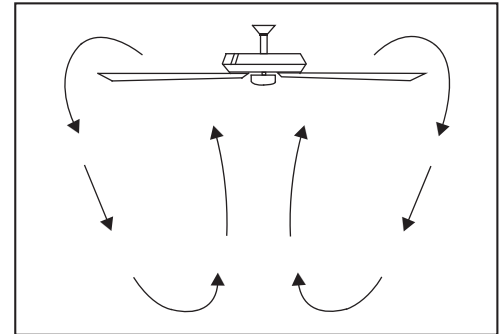

Figure 19
**Cool weather** - (Clockwise direction) An upward airflow moves warm air off the ceiling area. (Fig. 19) This allows you to set your heating unit on a lower setting without affecting your comfort.